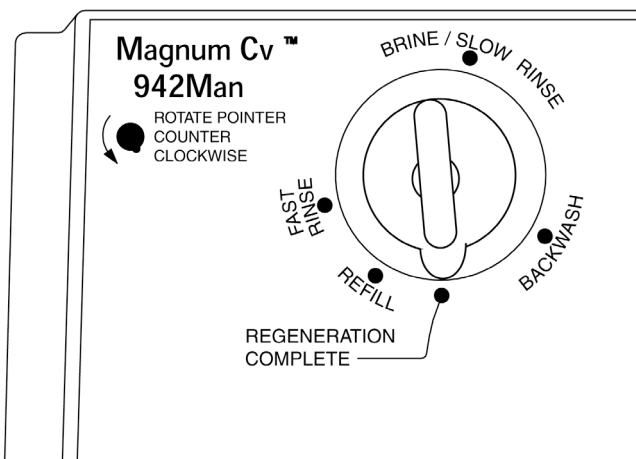

Figure 5.5
6. When the refill is complete move the indicator knob COUNTERCLOCKWISE to the **Regeneration Complete** position (Figure 5.5). The unit will now provide softened water.